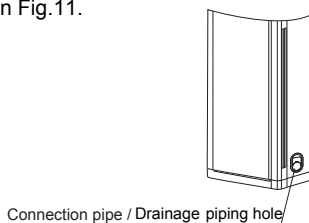

Fig.11
2.During piping and wiring in the left and at the rear side,the attached accessories should be used,as shown in Fig.11.